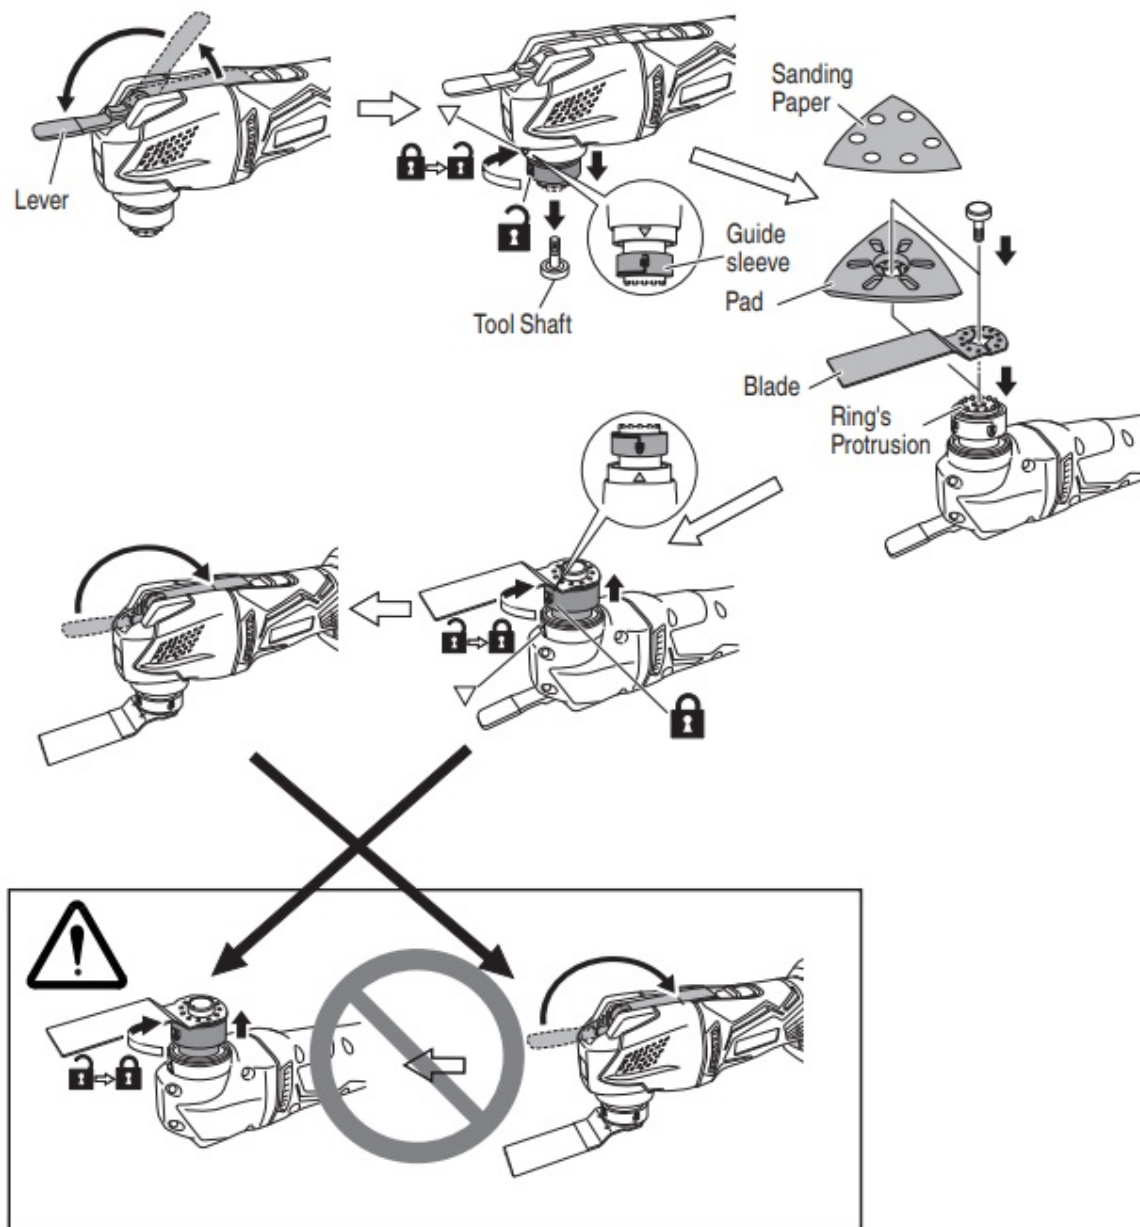

Fig. 7
5. Changing application tools (Fig. 7)